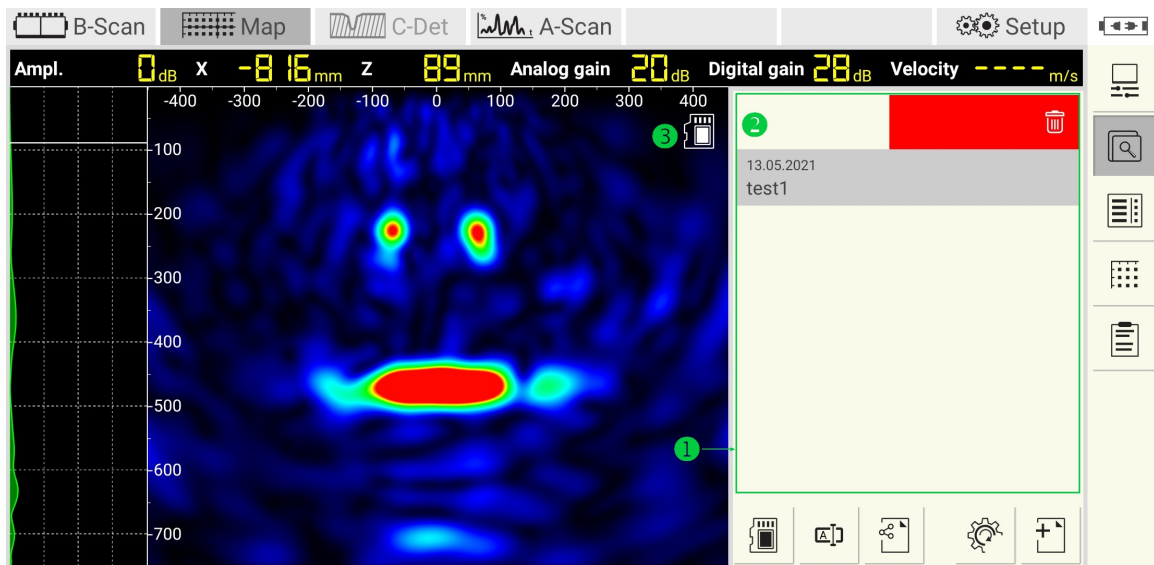

Figure 5: File manager
The `file manager` has a panel with a list of measurements (1), Figure 5. Each item in the list has a name and the date and time when it was saved or changed. The list can be scrolled by touching with a finger and simultaneously moving up and down. Short tip on the list causes the selection of the desired measurement followed by loading of corresponding data. The app switches to `offline` mode. The icon  indicates whether the loading finished successful, refer to (3). Repeated tipping of the selected item switches the app to `online` mode. The indicator  hides. The list allows deleting an item by holding long touch with a simultaneous horizontal right to left movement (2).